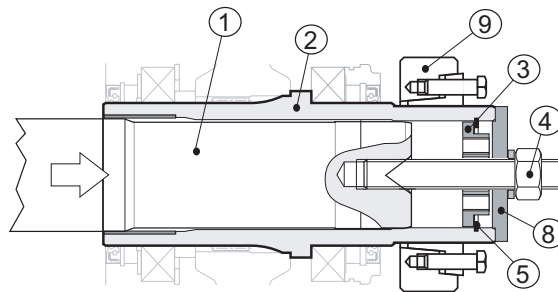

Fig. 24
Now insert the end plate (pos. 3), the inner retaining ring (pos. 5) and the end plate (pos. 8). Now when you tighten the threaded rod nut, the two shafts will abut against each other (see Fig. 24 (p. 30)).